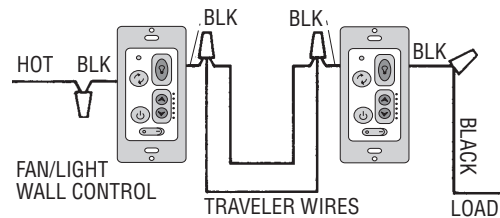
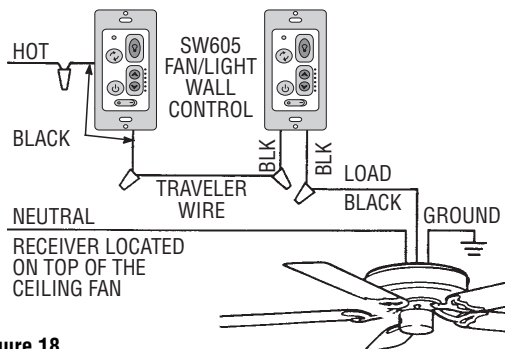

Figure 19
Figure 18
(See Figures 18 and 19.)
**NOTE:** Retrofit 3-way installations are likely to include two traveler wires between the two wall boxes (Figure 19). In new construction, only one traveler wire is required (See Figure 18).